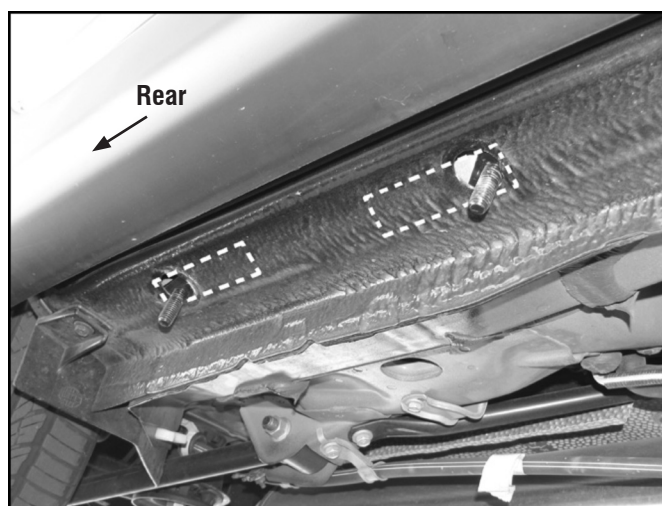

Fig. 3
Select (4) Bolt Plates. Insert each Bolt Plate into the factory hole with long end of the plates facing each other. (Fig. 3). Do this for both front and rear locations.